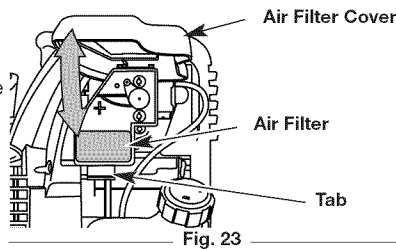

Fig. 23
- Open the air filter cover. Push the tab on the under side of the cover inward. Then pull the air filter cover out and up. (Fig. 23).
- Reinstall the air filter cover. Position the slots on the top of the air filter cover onto the tabs at the top of the back plate (Fig. 23).
- Swing the cover down until the tab on the air filter backplate snaps into place in the slot on the air filter cover (Fig. 23).